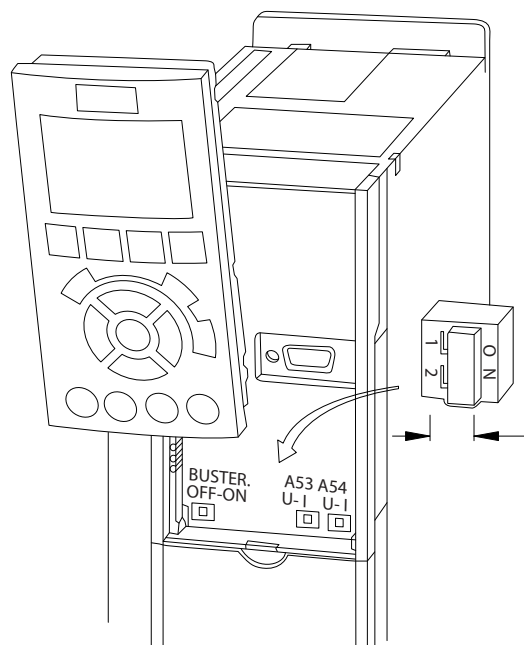

Fig. 22 — Location of Terminals 53 and 54 Switches
1. Remove the local control panel (see Fig. 22).
- Terminate each segment at both ends, using either the termination switch (bus term on/off, see Fig. 22) on the frequency converters, or a biased termination resistor network.